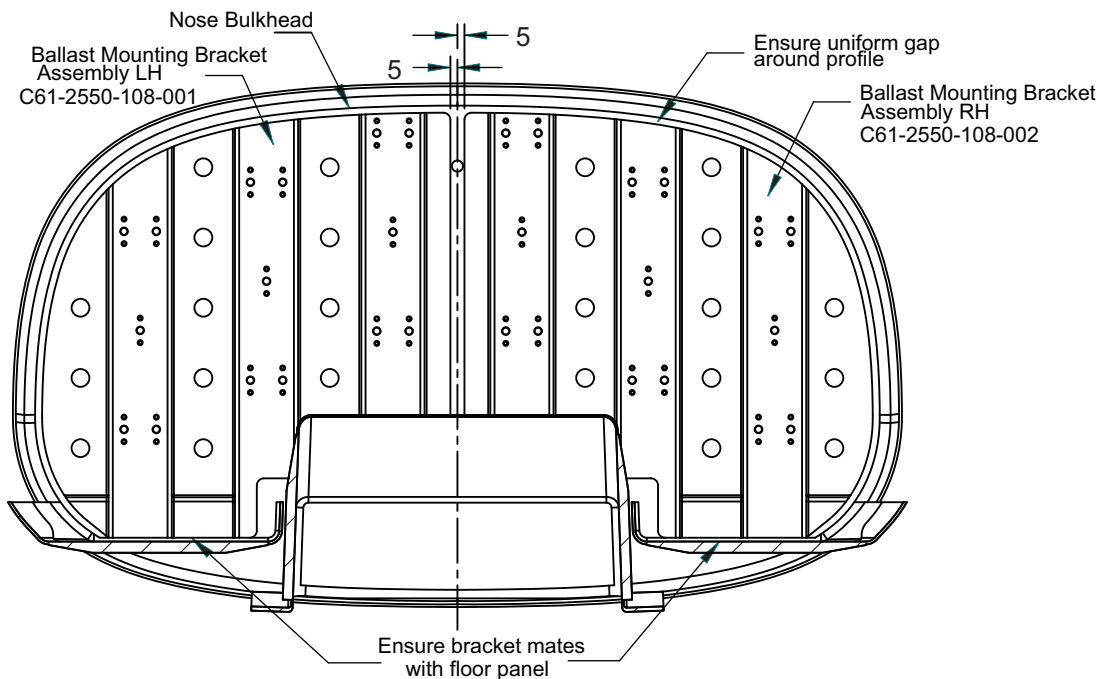

Figure 1 – Ballast Mounting Bracket Bonding Position
Shown in Figures 1 through 4.
- 10.4 Dry fit the LH (P/N C61-2550-108-001) and RH (P/N C61-2550-108-002) Ballast Mounting Bracket Assemblies as shown in Figure 1.